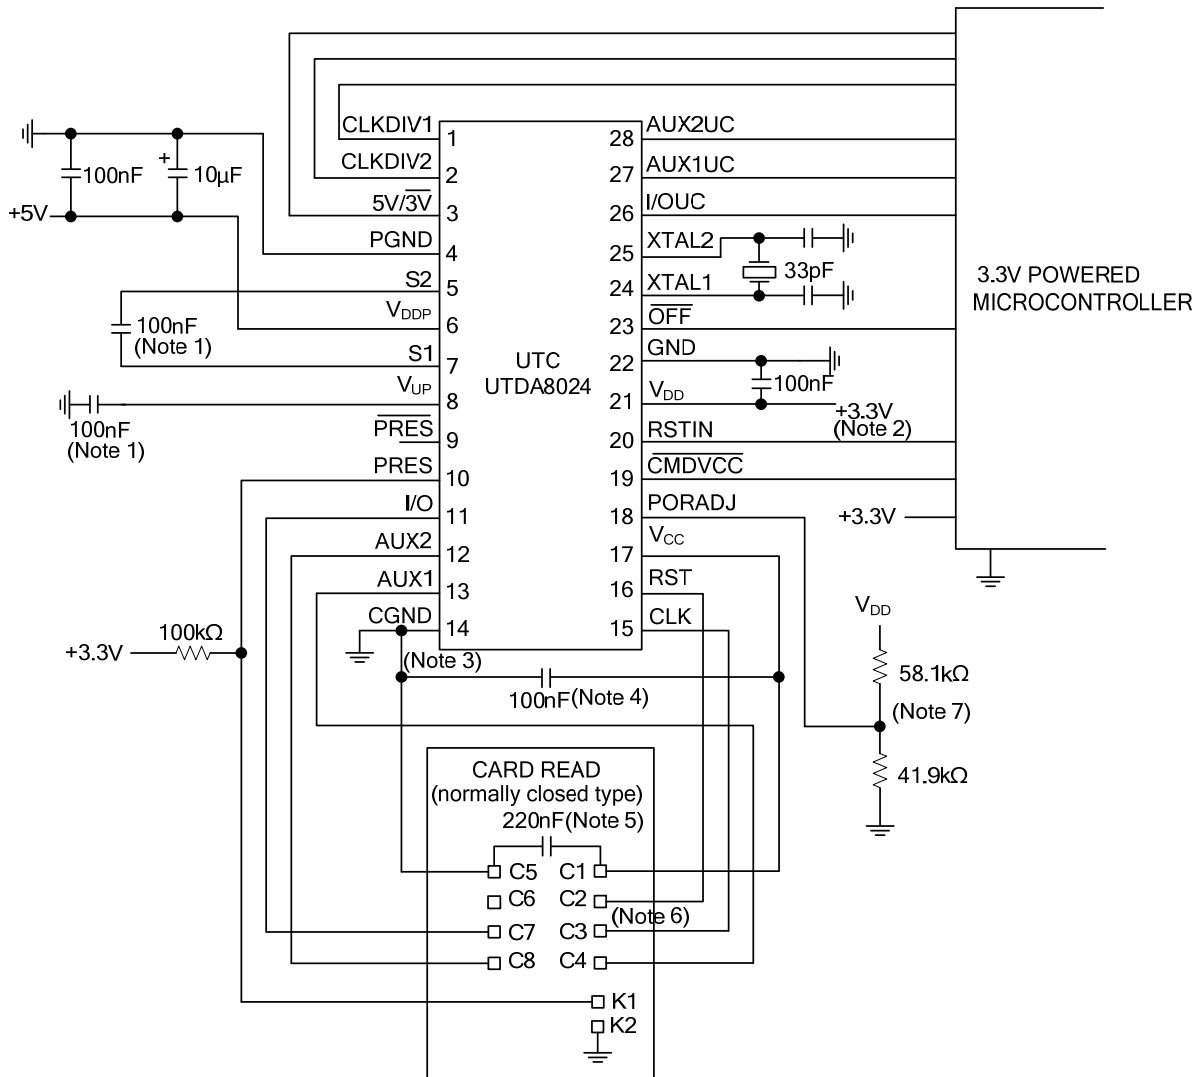

Fig. 6 Application Diagram.
- To meet these specifications, pin V_{CC} should be decoupled to CGND using two ceramic multilayer capacitors of low ESR both with values of 100nF, or one 100nF and one 220nF (see Fig. 6)